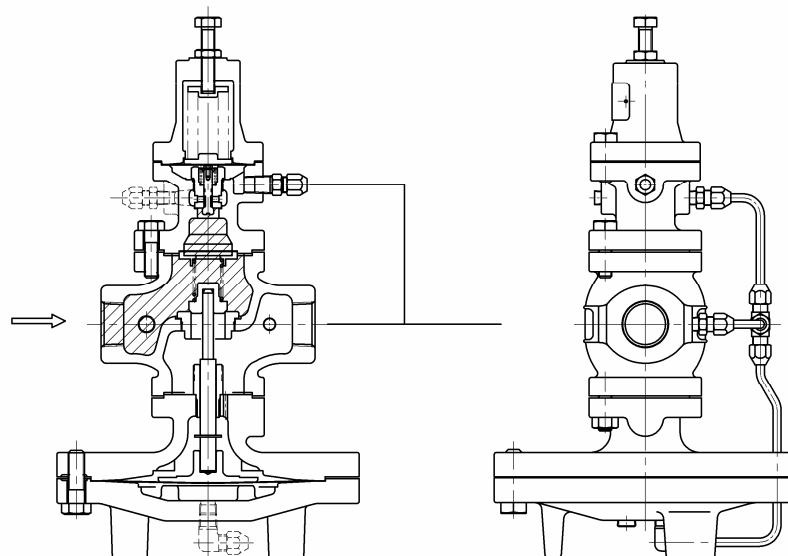

Fig. 1
- (1) When the pressure reducing valve is mounted correctly, releasing the compression of adjusting spring [24] allows main valve spring [13] and pilot valve spring [19] to close main valve [6] and pilot valve [17]. Slowly open the gate valve and allow the high pressure fluid to flow in. Inlet pressure is applied to the upside of the main valve. High pressure fluid passes through screen [15] to also apply inlet pressure to the downside of the pilot valve. (**Fig. 1**)